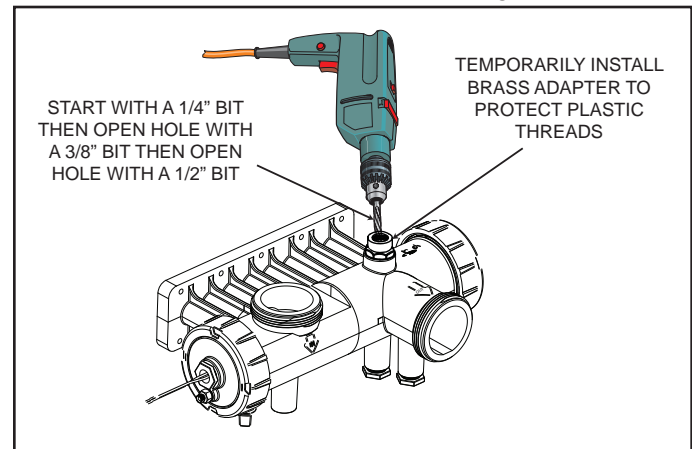

Figure 18. Drill Hole for Pressure Relief Valve
2. Using the countersink in the center of the blind hole as a guide, drill a 1/4 inch hole through the plastic. See Figure 18.